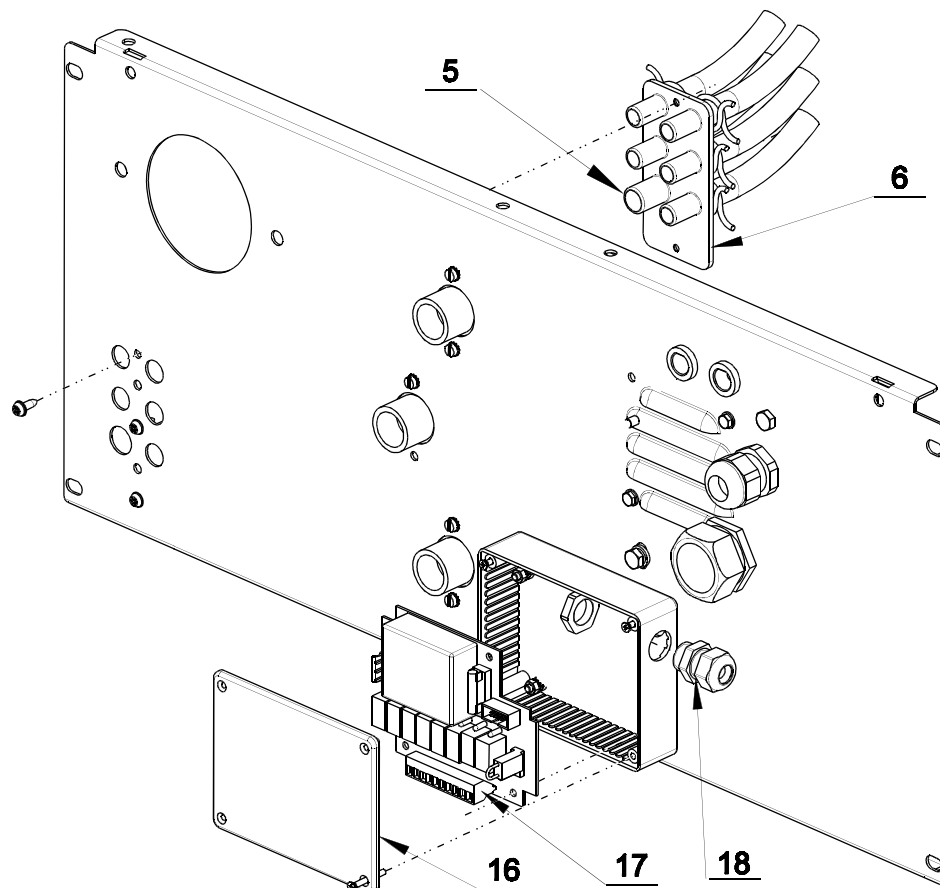

Fig.4.10.D Rear panel
For the electrical connection is a plastic box provide at the rear side of the machine. On the back of the cover (pos.16) an explanation can be found for the electrical connection, (fig.4.10.E). Details can also be found on the electrical wiring diagram of the machine.